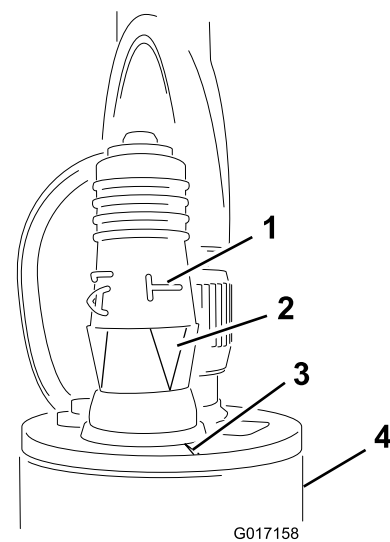

Figure 14
5. Install the programming plug on the sensor (Figure 14).
Important: Ensure that you align the arrow below the sideways “T” with the notch on the top edge of the sensor (Figure 14).